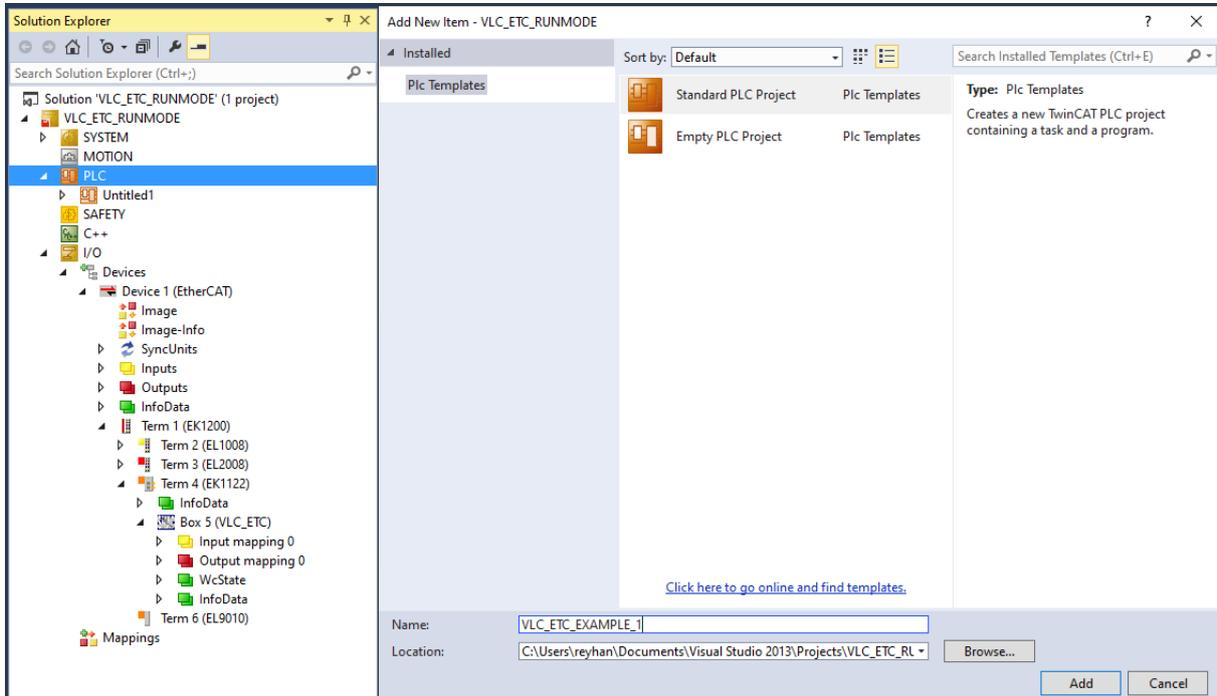

Figure 3.8. Adding a new PLC project.
- Right-click on the PLC in the left pane of TwinCAT environment and select 'Add new item'. Provide a name for a standard PLC project, as illustrated in Figure 3.8.